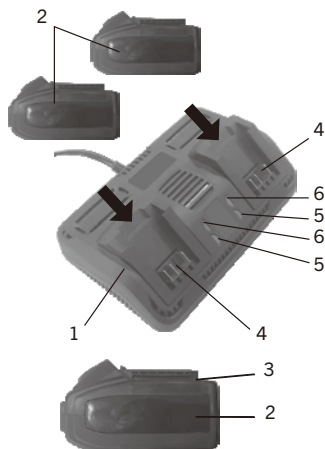

FIG. 6
- Place the battery charger (1) in a dry location near a 110–120V 60 Hz electrical outlet (Fig. 6).